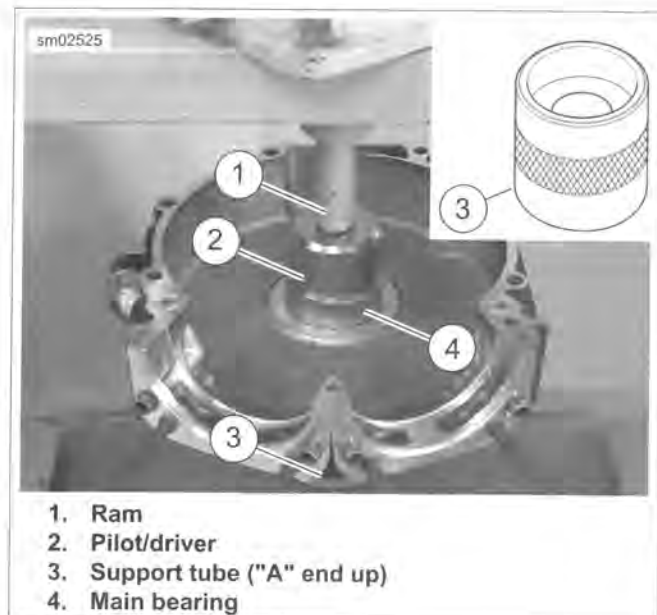

Figure 3-127. Left Main Bearing Installation
- See Figure 3-127. Place a thin film of clean engine oil on outer diameter of **new** main bearing (4).
- Place support tube (3) on hydraulic press table with the "A" end up.
- Slide pilot/driver (2) through bearing into support tube.